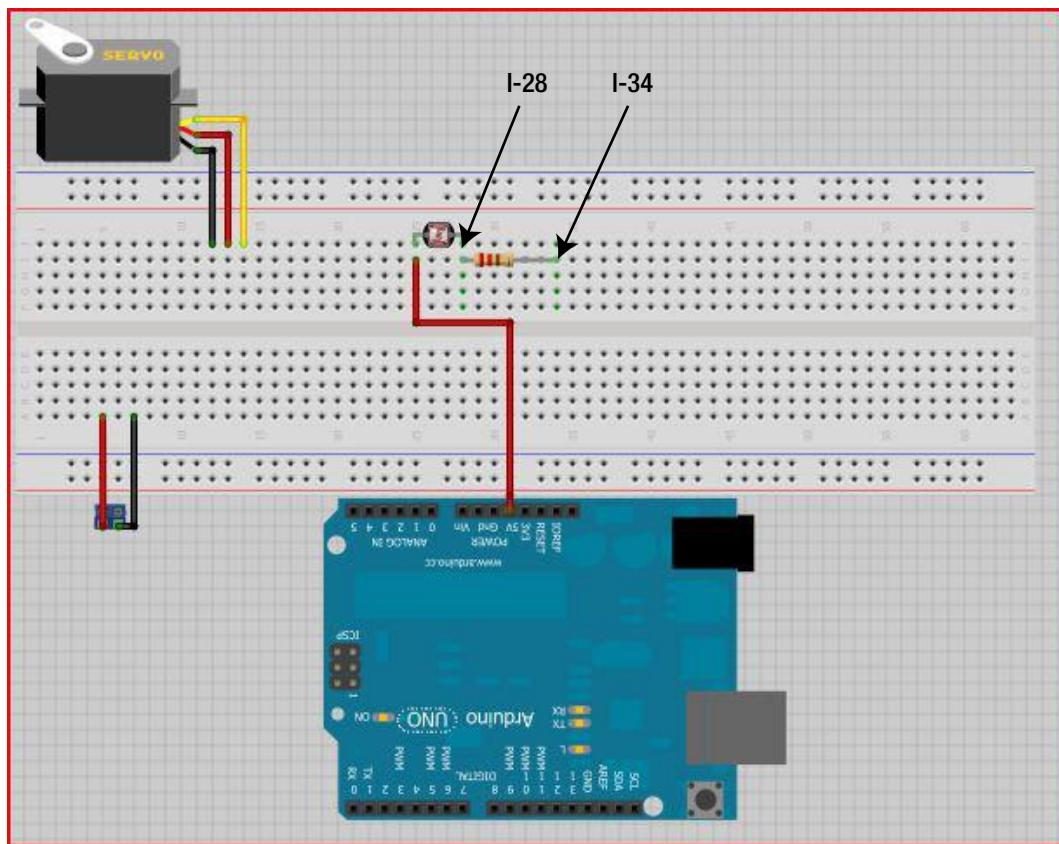

Figure 27-8. Attach the 10K-ohm resistor to the breadboard
7. Add in a 10K (10,000-ohm) resistor from I-28 to I-34 of the breadboard. Figure 27-8 illustrates this process.